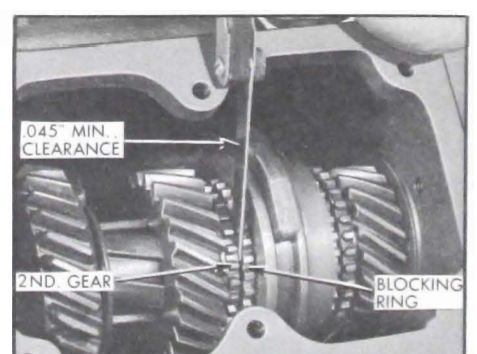

Figure 4-35—Checking Blocking Ring Clearance
12. Check clearance between front blocking ring teeth and drive gear teeth by lightly seating blocking ring on contacting surface of gear. Minimum clearance between blocking ring teeth and gear teeth should be $.045$ ". Replace blocking ring if clearance is found to be less than the specified amount. Use same procedure to check clearance between rear blocking ring teeth and second speed gear teeth. See Figure 4-35.